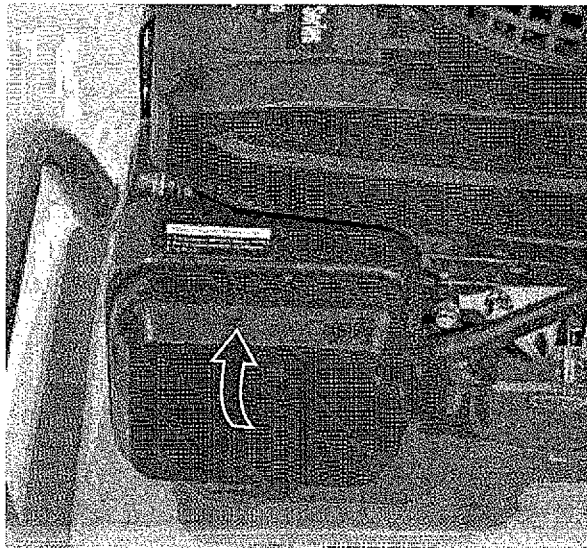

Figure 32 – Installation of Air Cleaner Cover
12. Close the air cleaner cover by rotating the cover upward and reengaging the tab at the top of the air cleaner assembly (see Figure 32).